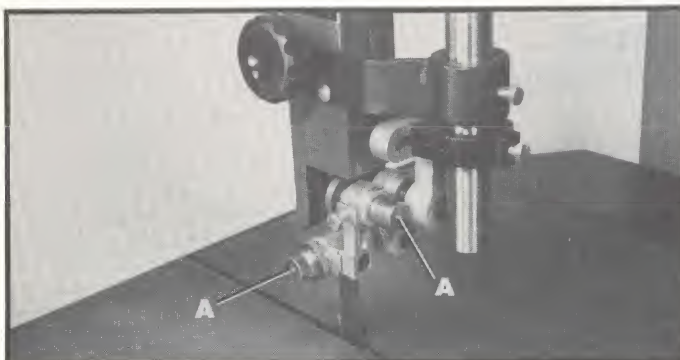

Fig. 30
Periodically, the upper blade guides and blade support bearing should be lubricated using #10 weight oil through the oil detents (A) Figs. 30 and 31, using a pressurized oil gun. The lower blade guides and blade support bearing should be lubricated in the same manner.